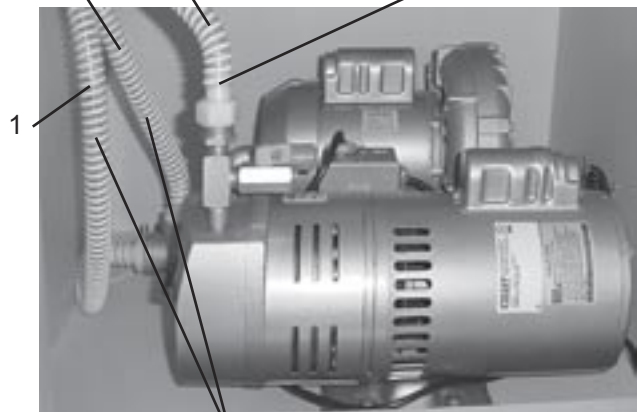

Fig15b
7. Attach the air hoses from the ends of the pile guides to the double hose fittings of the blower. The single hose from the sucker wheel fitting attaches to the vacuum fitting (Fig 15a & Fig 15b).